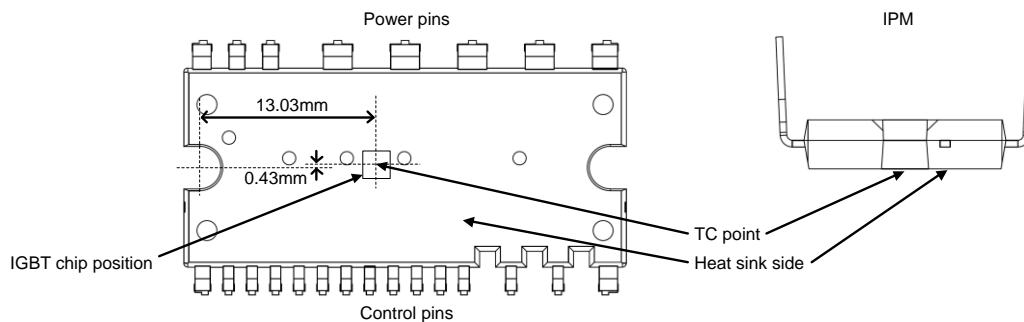

Figure 1. T_C Measurement Point.
- For the measurement point of case temperature(T_C), please refer to figure 1.